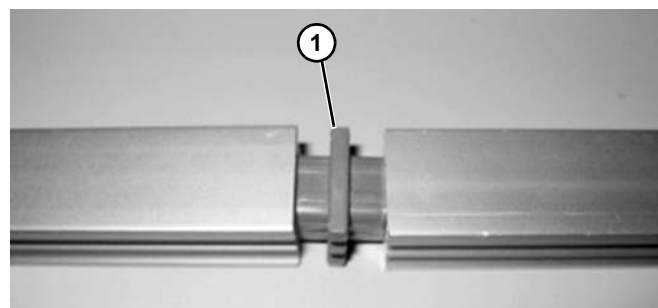

Figure 109
1. Connecting plugs (Figure 109, item 1) are pressed into two guide rail ends with soft hammer.